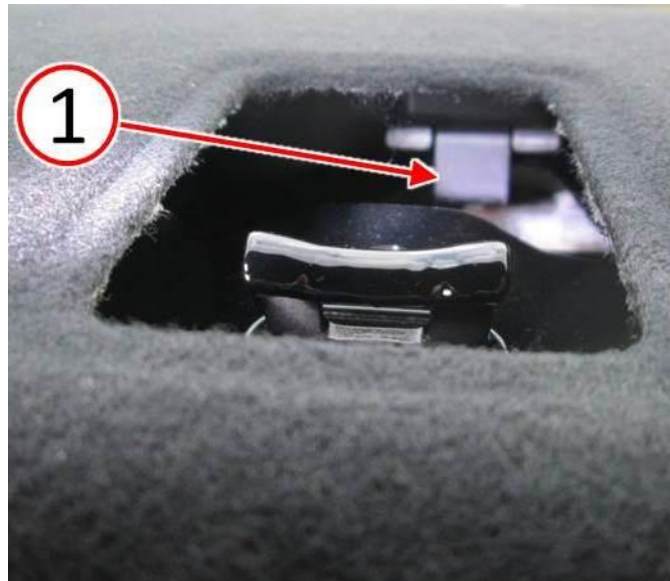

Fig. 6 Shelf Panel Clip Engagement
20. Take care to ensure the metal clip (1) in the center of the rear shelf panel is attached properly to the rear shelf. By looking through the opening for the center anchor cover, it is possible to verify that the clip (1) is engaged (Fig. 6).